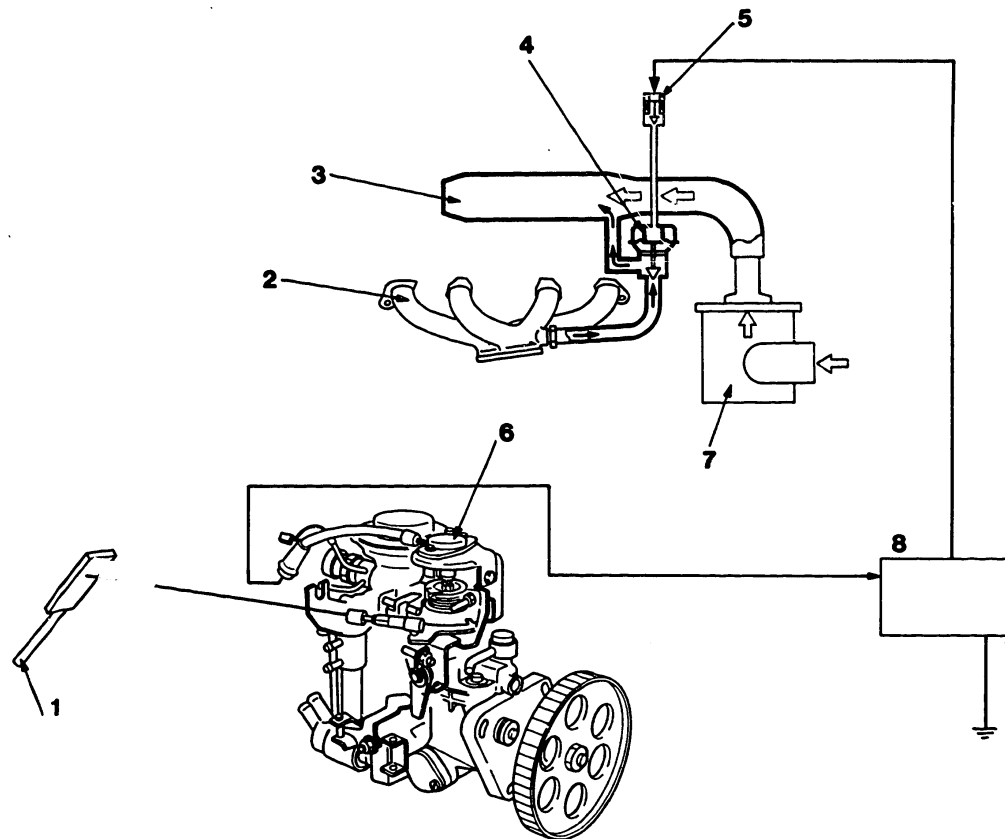

Fig. 65 E.G.R. system
**Note: The E.G.R. system is designed to control NOx emission by recirculating the exhaust gas through the E.G.R. control valve into the intake manifold. (Fig. 65)**